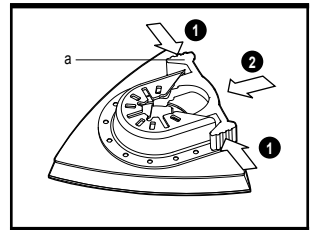

Fig. 6-2
-Press both sides of the baffle (a) to push it into the back of the sanding pad, then release the baffle to fix it into the sanding pad. (See Fig. 6-2)